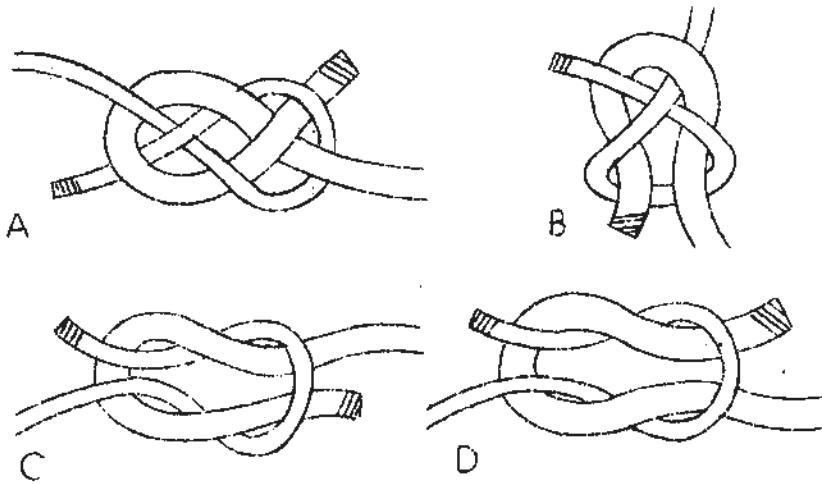

FIG. 5
16. Which of the knots in FIG. 5 would be used to join two ropes of unequal diameter, A, B, C, or D.